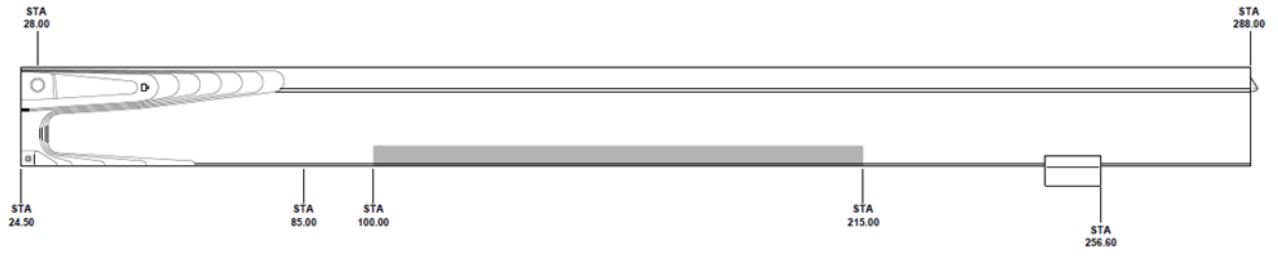

Figure 1 – 204-011-250 Series Main Rotor Blade
- a. Wipe the last 4 inches of the trailing edge between blade station 100 and 215 (shaded area) with an alcohol-soaked cloth (C-385) and wipe dry with a clean cloth. (Figure 1)